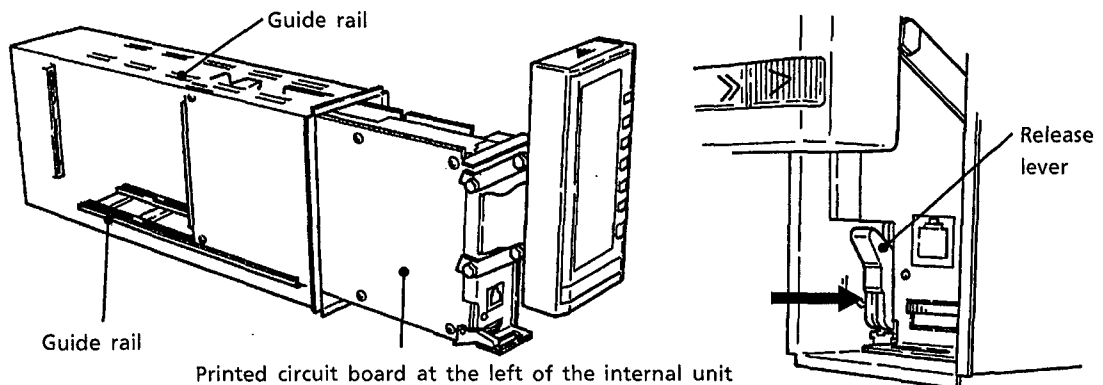

Figure 4.8 Installing the Internal Unit 1 Figure 4.9 Installing the Internal Unit 2
- ① Set the printed circuit board, which is at the left of the internal unit, in the guide rails at the left top and the left bottom in the housing (see Figure 4.8). Then, push in the internal unit until it touches the connector at the back and clicks. The release lever is set back to the hold position.